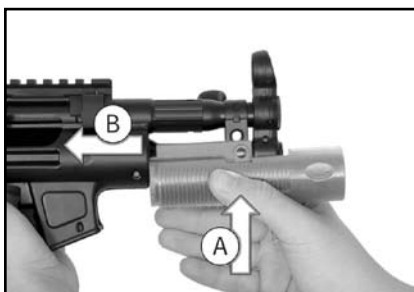

Fig. 42 – Install handguard
2. Place handguard onto receiver from below and press it rearwards (Fig. 42).